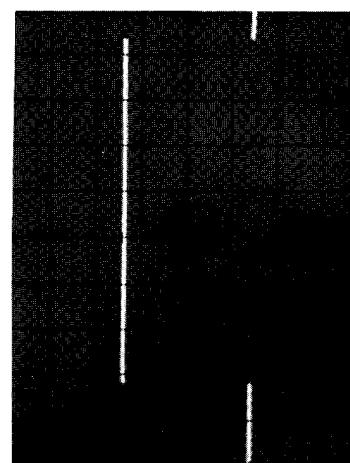

Figure 4b. Magnified Display
3. Press MAG X10 **8** and adjust horizontal fine POSITION **14** for precise placement of magnified display (figure 4b).